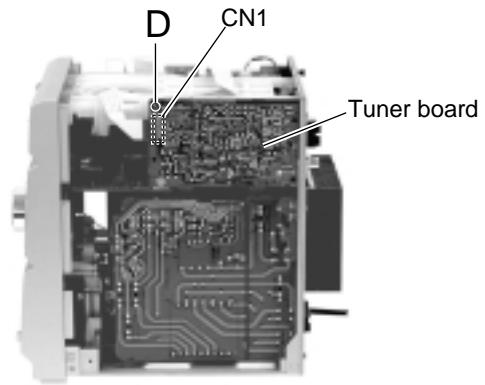

Fig.4
■ Removing the tuner board (See Fig.4 and 5)